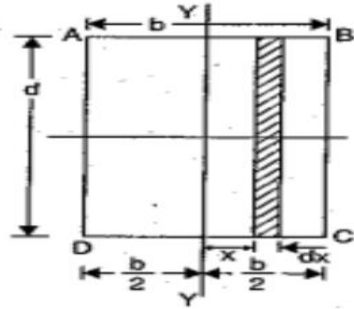

Figure 3(a)
- b) For figure 3 (a), use the integration method to show that the moment of inertia of a rectangular section about Y-Y axis may be obtained as $\frac{db^3}{12}$